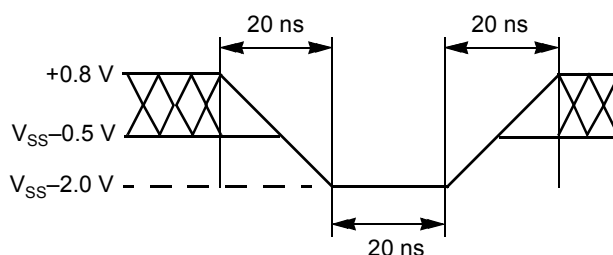
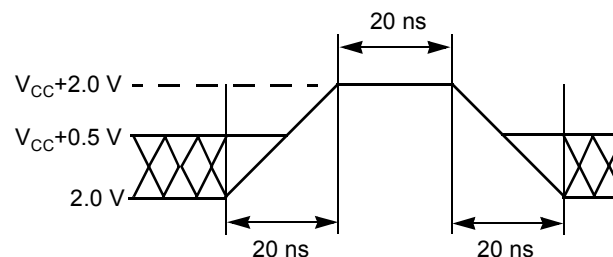

Figure 13. Maximum Negative Overshoot Waveform
Figure 14. Maximum Positive Overshoot Waveform
1. Minimum DC voltage on input or I/O pins is  $-0.5\text{ V}$ . During voltage transitions, input or I/O pins may overshoot  $V_{\text{SS}}$  to  $-2.0\text{ V}$  for periods of up to 20 ns. Maximum DC voltage on input or I/O pins is  $V_{\text{CC}} + 0.5\text{ V}$ . See Figure 13. During voltage transitions, input or I/O pins may overshoot to  $V_{\text{CC}} + 2.0\text{ V}$  for periods up to 20 ns. See Figure 14.